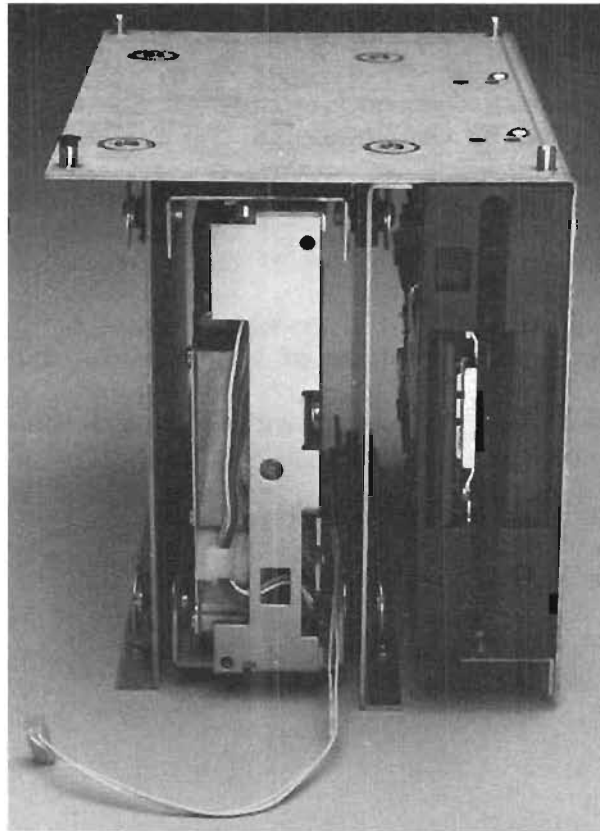

Figure 19.4
Note: The diskette drive and the hard disk drive are both housed in a single drive shield, making it necessary to remove both drives and the shield as one unit. The shield is composed of several individual pieces; figures 19.4 and 19.43 should be used for reference.
11. Remove the two screws that attach the top of the drive and the drive shield. Refer to figure 19.4.
12. Remove the two screws on the side of the drive shield. Refer to figure 19.4.
Note: The diskette drive and the hard disk drive are both housed in a single drive shield, making it necessary to remove both drives and the shield as one unit. The shield is composed of several individual pieces; figures 19.4, 19.6 and 19.63 should be used for reference. This unit will be referred to as the drive assembly unit in the instructions for removing and installing drives.
10. Remove four screws from the top of the drive assembly unit. Refer to figure 19.4.
5. Position the drive assembly unit so that the mounting holes are aligned with the mounting holes in the hard drive shield. Refer to figure 19.4.